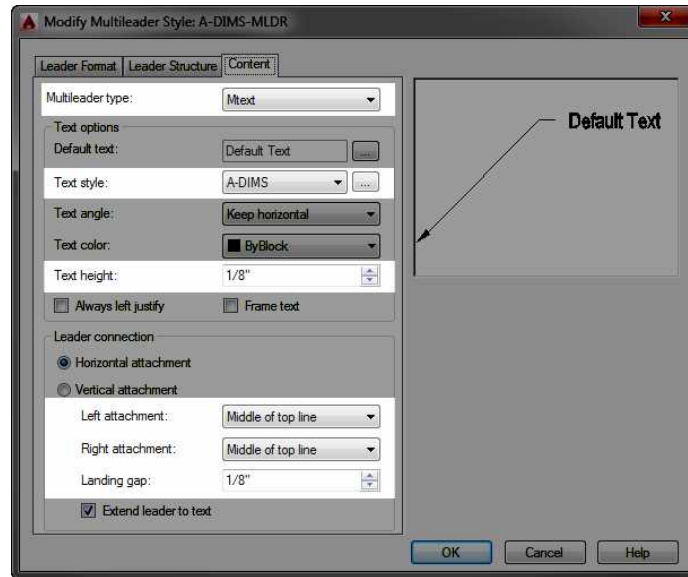

FIGURE 12.38: The Content tab in the Modify Multileader Style dialog box
8. Switch to the Content tab shown in Figure 12.38.
10. In the Leader Connection group, set both the Left Attachment and Right Attachment options to Middle Of Top Line, as shown in Figure 12.38.
11. Set the Landing Gap value to 1/8" (3.5), as shown in Figure 12.38.